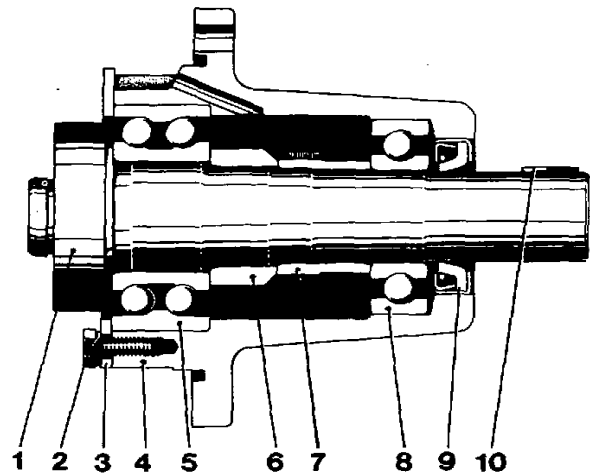

Fig. 144. Injection pump drive
To be able to remove the drive (fig. 144), the crankshaft pulley, if fitted, vibration damper, any rev. counter drive, and the injection pump drive must be removed first. After
1. Remove the key (10, fig. 144).
2. Remove the attaching bolts (2) and the washer (3).
3. Press the shaft with bearings, stop ring, and drive out of the housing. In case the bearing (8) will not come out, the removal is carried out in two steps. Remove the bearings, drive and stop ring from the shaft.
4. Remove the shaft sealing (9) from the housing.
1. Fit the rear bearing (8, fig. 144) in the housing. Use drift 2267.
2. Press the front bearing (5) onto the shaft. Fit the stop ring (6) and the drive (7) on the shaft.
3. Press the entire unit into the housing after fitting a counterhold against the rear bearing (8) inner ring. Press until the different parts of the drive bottom against each other.